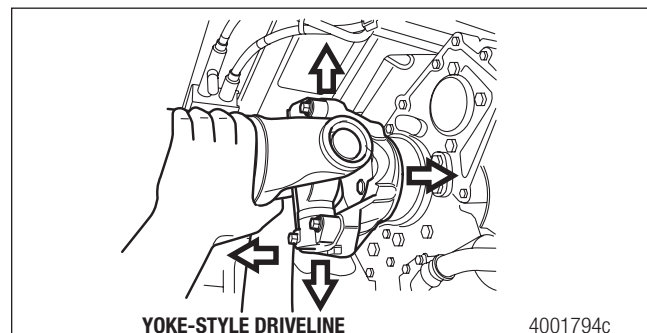
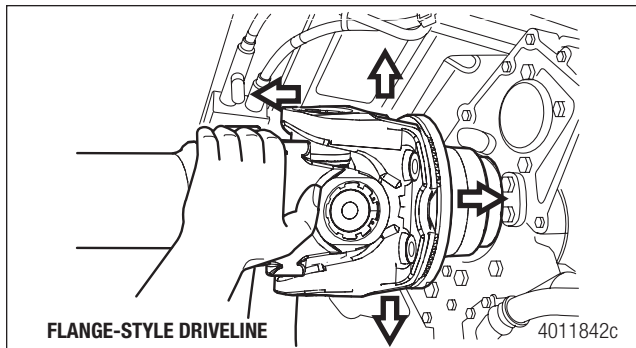

Figure 4.4
Figure 4.5
2. Try to move the yoke or flange UP-AND-DOWN and SIDE-TO-SIDE by applying at least 50 pounds (22.7 kg) of force to the driveline near the universal joints. Figure 4.4 and Figure 4.5.
Every 25,000 miles (40,000 km)	If you observe any of the following conditions, remove and replace components as needed. 1. Inspect all universal joints for grease purging. If a universal joint shows normal grease purging: Do not replace the universal joint. Refer to TP-9980. 2. Check for excessive looseness across the ends of the universal joint bearing cup assemblies and trunnions. • Grip driveline near the INBOARD yoke with both hands. • Try to move the yoke VERTICALLY and HORIZONTALLY. Movement in the universal joint relative to the INBOARD or OUTBOARD yokes must not exceed 0.006-inch (0.152 mm). Figure 4.4 and Figure 4.5. 3. Inspect the slip yoke spline seal for grease leakage or seal damage. 4. Inspect for missing balance weights, damaged tubing, or a missing welch plug at the slip yoke.